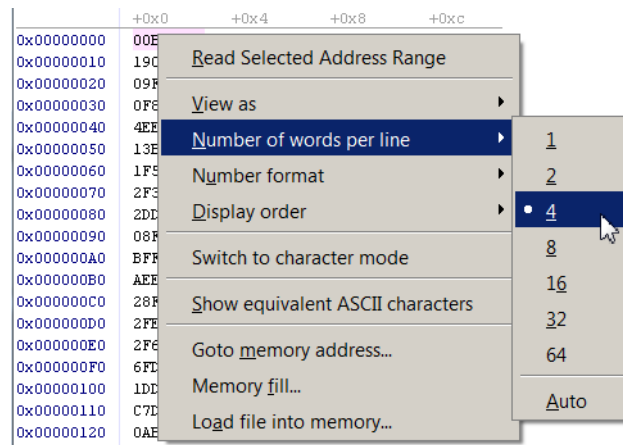

Figure 35. Setting the number of words per line.
- Number of words per line - the number of words per line can be configured to make it easier to find memory addresses, as depicted in Figure 35.